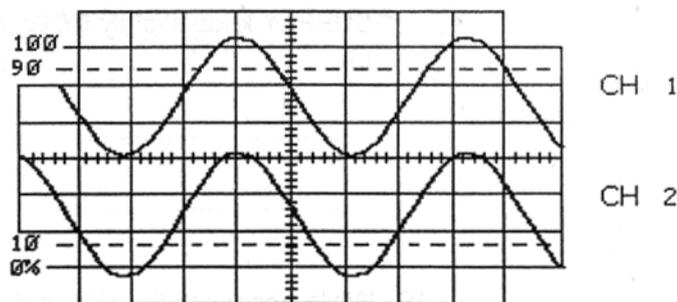

Figure 7-9.
12. Observe the RF and VCO signals on the oscilloscope. They will probably appear unstable on the oscilloscope screen. Turn the NEGATIVE SUPPLY knob **completely CCW**, then slowly increase f_i (CH1) by turning the NEGATIVE SUPPLY knob **CW** until the VCO signal **starts** to track (follow) the RF signal, at which time the signal will appear more stable on the screen. Now stop turning the NEGATIVE SUPPLY knob CW. The signals should appear as shown in Figure 7-9.